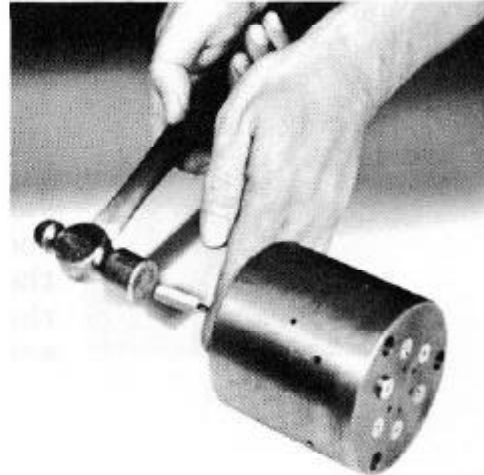

FIG. 29
- c. Insert a small punch (5/32" or less in diameter) through the plunger holes and drive out the brass check valve plug, spring and ball. See Fig. 29.